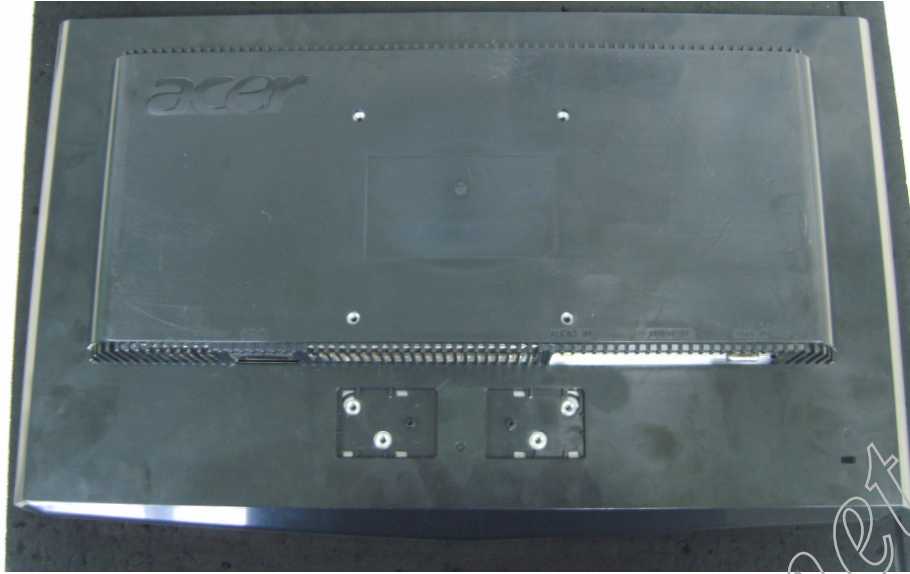

Fig 3
3. Remove the back cover and bezel. (Fig 3,4)